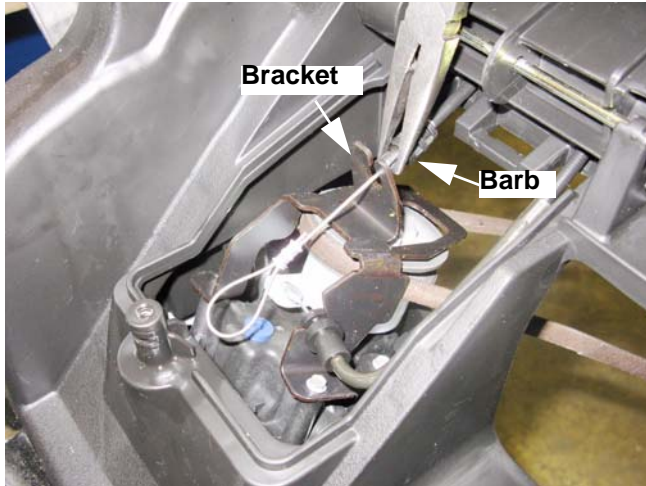

Figure 2.11
12. Squeeze the barb on the bottom end of the drive clutch cable to release it from its bracket. See Figure 2.11.